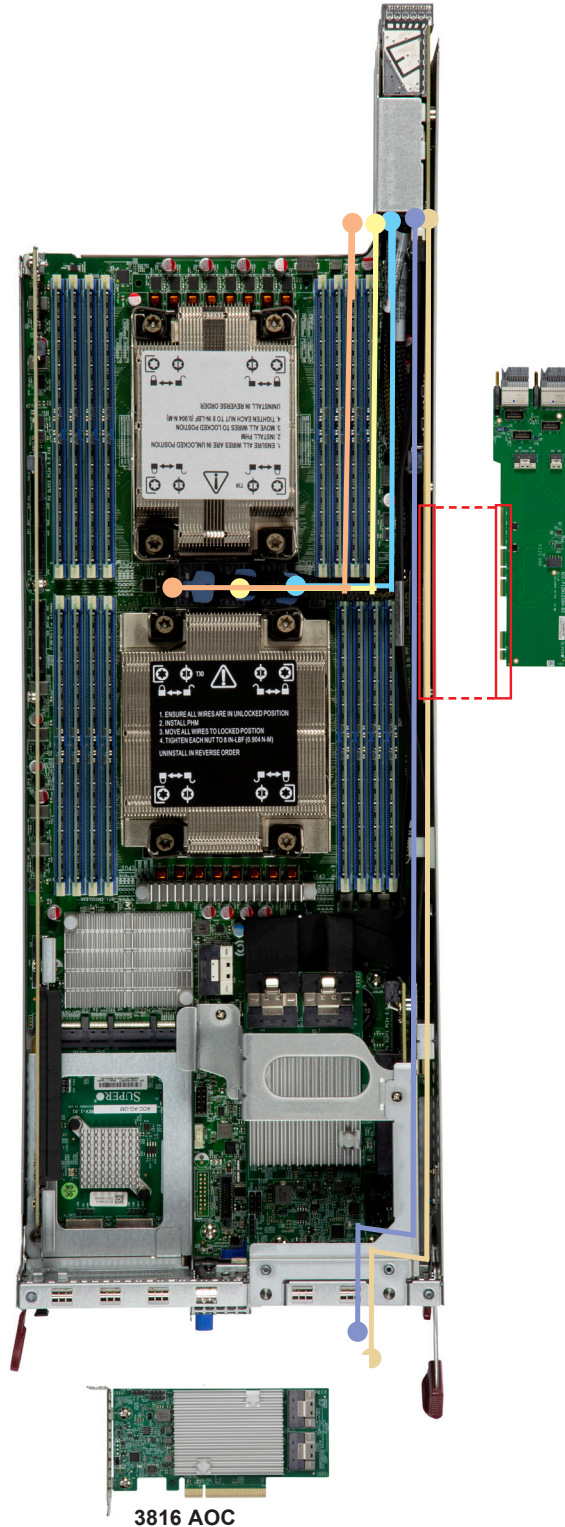

Figure 3-23. SYS-221BT-DNC8R Cable Routing Diagram
7. Connect cables. See Section 3.12 Figure 3-23.